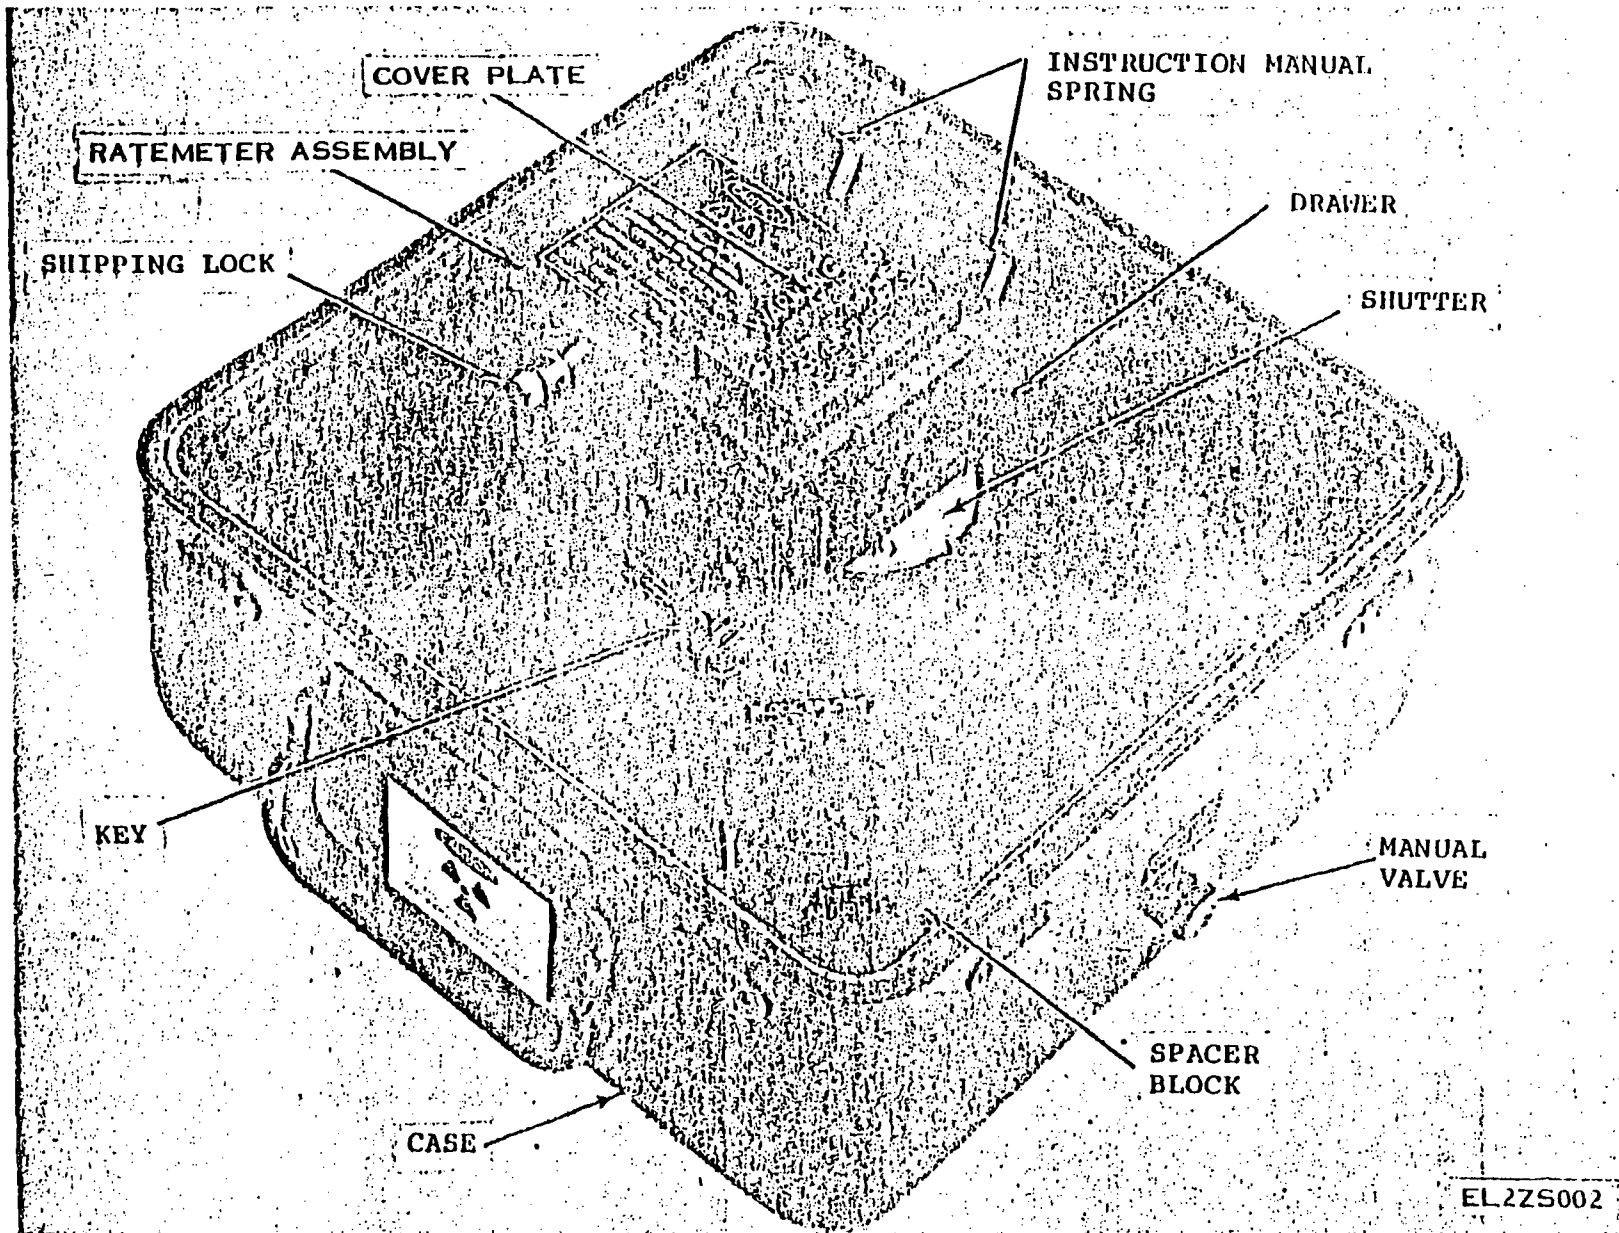

Figure 1-3. Calibrator, Radiac TS-349/UDM-2.
b. *Calibrator, Radiac TS-3494/UDM-2* (fig. 1-3).
- (1) Remove the waterproof, pressure-sensitive tape from the top of the outer corrugated carton.
- (2) Lift open the flaps and remove the top and side corrugated fillers.
- (3) Remove the inner corrugated carton containing the AN/UDM-2.
- (4) Remove the waterproof, pressure-sensitive tape from the top of the inner carton.
- (5) Lift open the flaps and remove the AN/UDM-2.
- (6) Turn the manual valve (fig. 1-3) counterclockwise to equalize the pressure.
d. On the RATEMETER assembly (fig. 1-3), check to be sure that the spacer block is in place and that the drawer slides open.
TS-3494/UDM-2 (fig. 1-3):